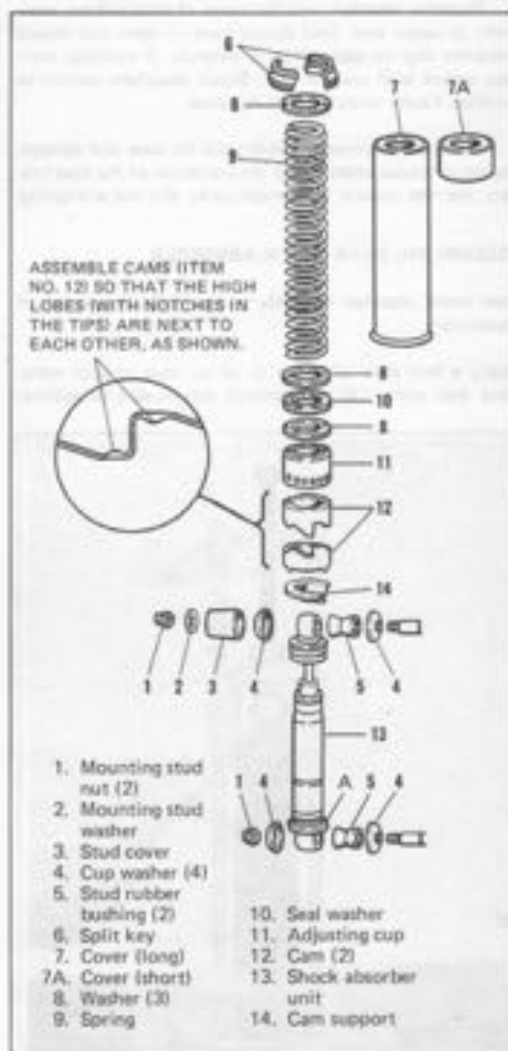
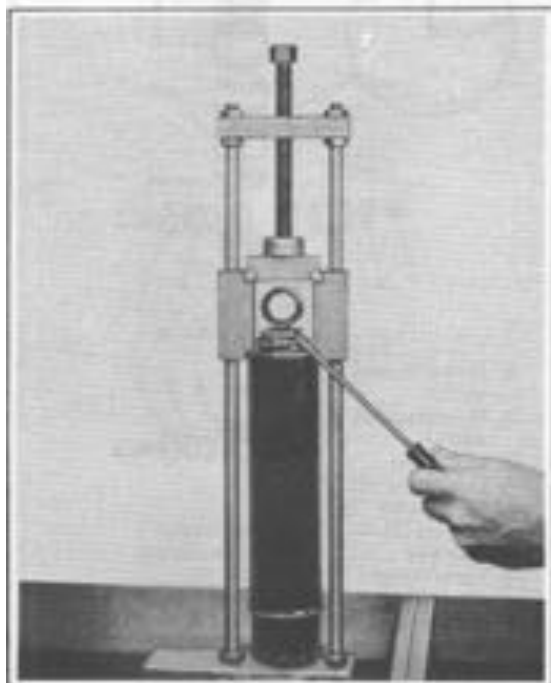

Figure 2-38. Later Rear Shock Absorber - Exploded View
Figure 2-39. Disassembling Shock Absorber
DISASSEMBLING REAR SHOCK ABSORBER (Figure 2-38)
Remove top and bottom mounting stud nut (1), mounting stud washer (2), upper stud cover (3) and cup washer (4). Slip shock absorber assembly off upper and lower studs. Push rubber bushings (5) from shock absorber mounting eyes. Place shock absorber in Rear Shock Absorber Tool, Part No. 97010-52A with split key (6) up. Compress absorber spring enough to remove each half of split key (6) from flange on shock eye as shown in figure 2-39. Release spring compression and remove absorber assembly from tool. Remaining items can be removed in order shown in figure 2-38.
cam lobes correctly as shown in figure 2-38 inset. Place assembly in compressor tool and compress spring enough to install key halves (6). Release spring compression. Keys will lock into place in inside diameter of covers 7 or 7A.
Install each shock absorber on motorcycle with slot in cam support (A, figure 2-38) facing toward wheel.